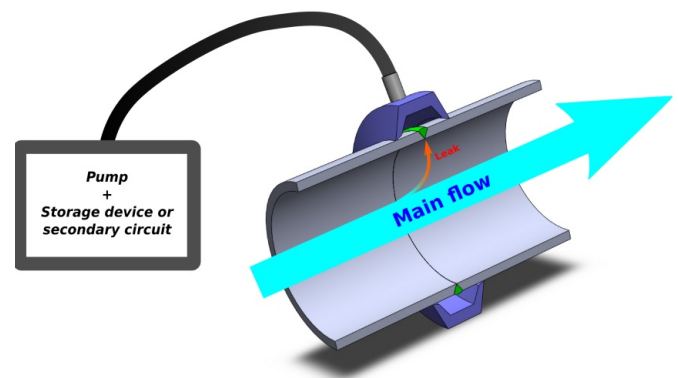

Fig. 2 : Set up of clamshell to capture leak.
- 3- Connect clamshell tool to the pump or secondary circuit (see fig. 2).